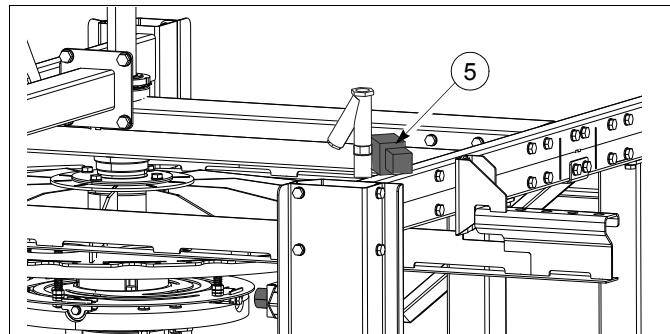

fig. 14 Magnetic valve connection for machines connected to chlorinated water
- Connect magnetic valve **5** to the overhead conveyor Control Panel. See paragraph 5.2.1.2 Connect magnetic valve. See fig. 14.